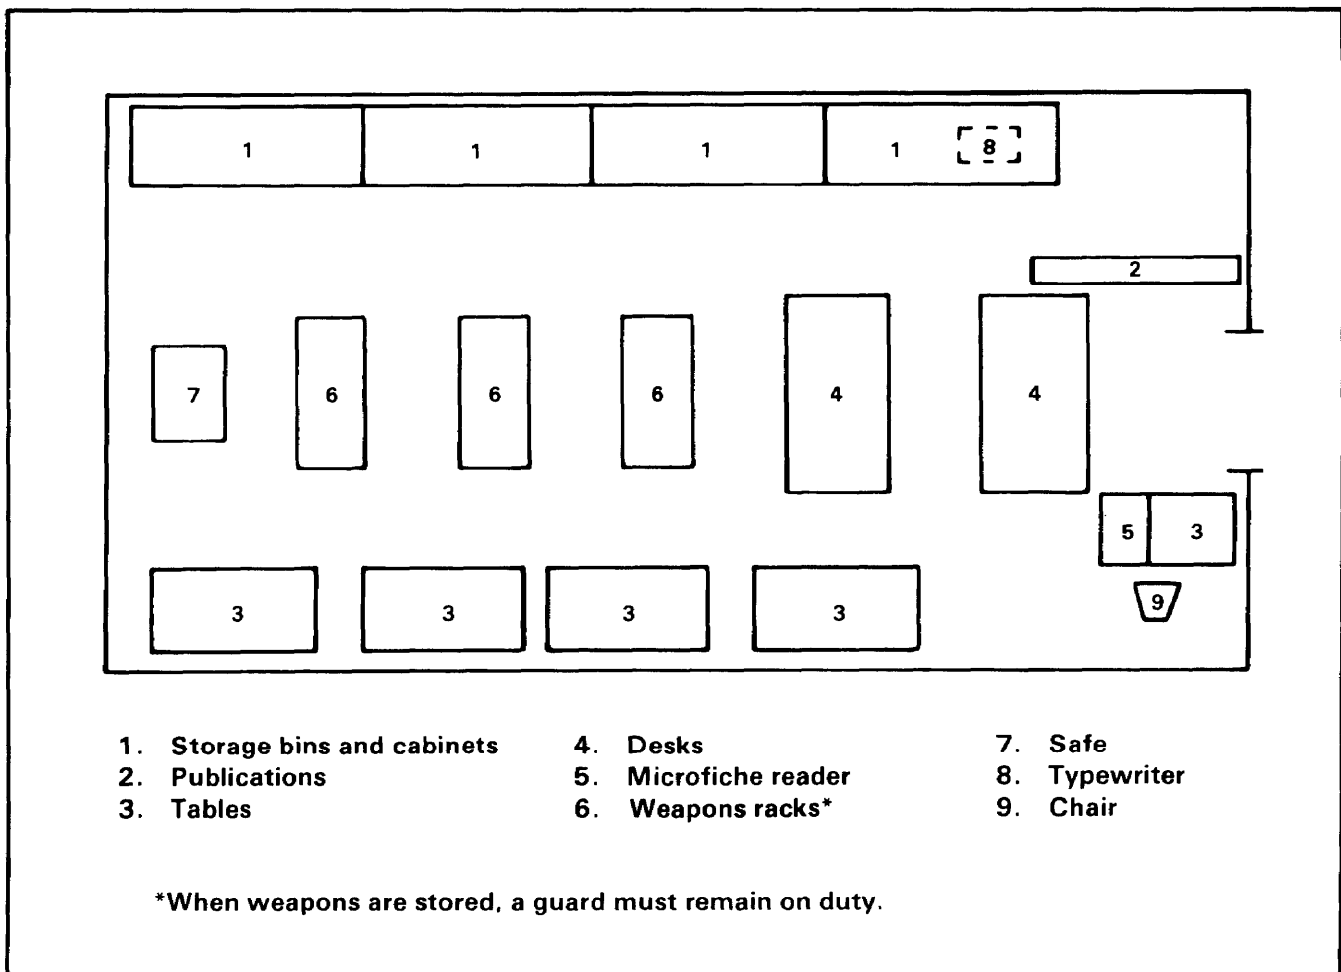

Figure 3-1. Sample layout plan in a medium GP tent
- To develop a layout plan (Figure 3-1).